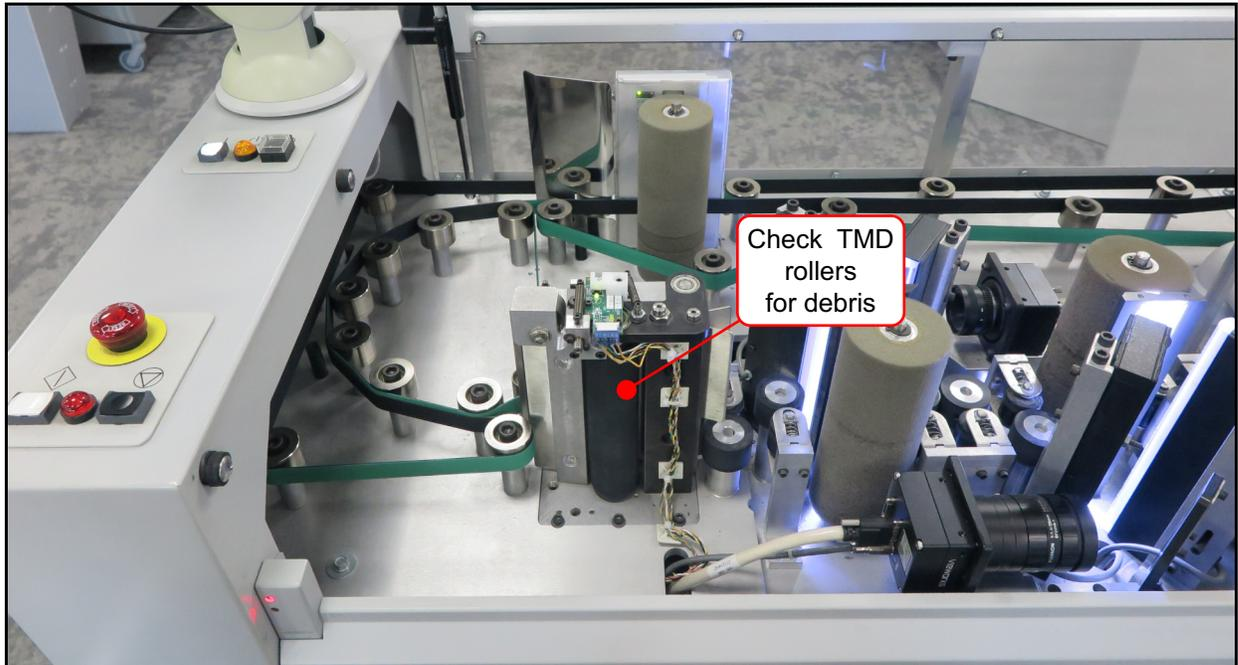

Figure 6-2: Outsort TMD area
- Clean the outsort TMD area (Figure 6-2). Remove any tape, paper, or other obstructions from the TMD rollers and surrounding area.